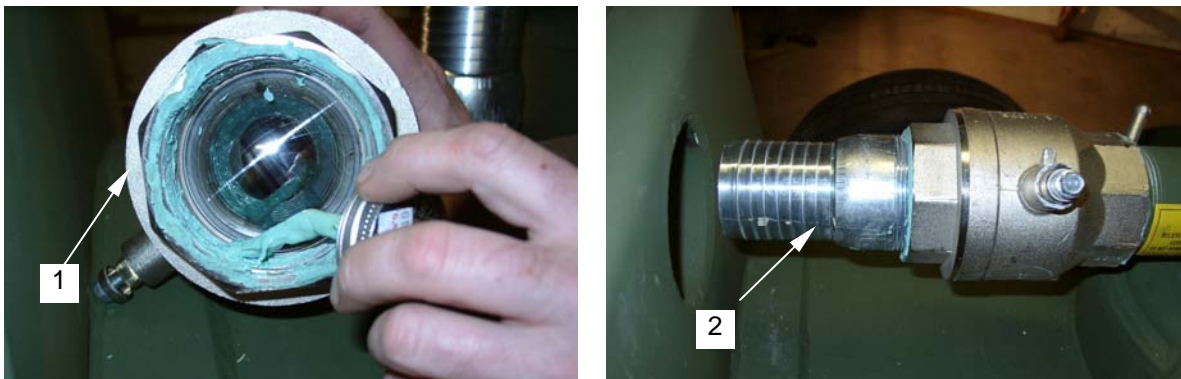

Figure 4. Connecting Hose Fitting To Valve
9. Clean hose fitting threads and apply pipe sealant to the valve threads (**figure 4, item 1**).
10. Install hose fitting to valve (**figure 4, item 2**) and tighten with pipe wrench.